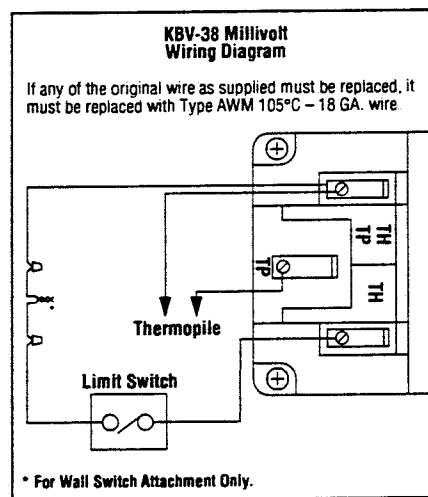

Figure 13
A. Millivolt Wiring – The gas valve has been set in place and has been pre-wired at the factory. No additional wiring is required unless the optional wall switch or optional remote control kit, Model RCK, is to be installed. Locate the optional wall switch or optional Model RCK in the desired location and connect the millivolt wire (Refer to Figure 13).